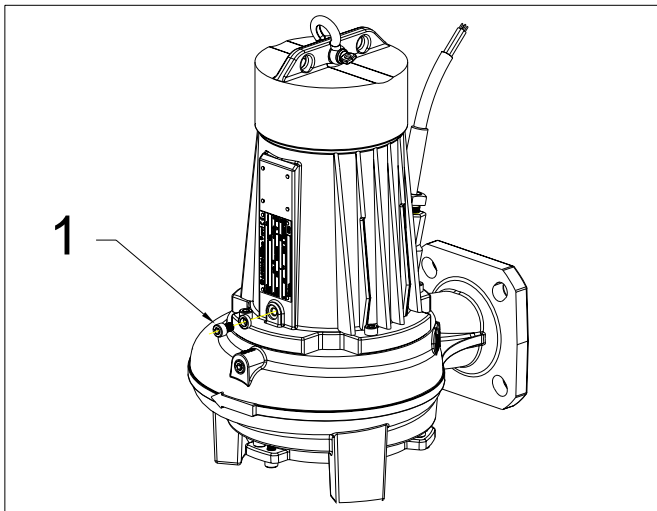

Fig. 7.5
(For RC22 see Fig. 7.5 pos 1).